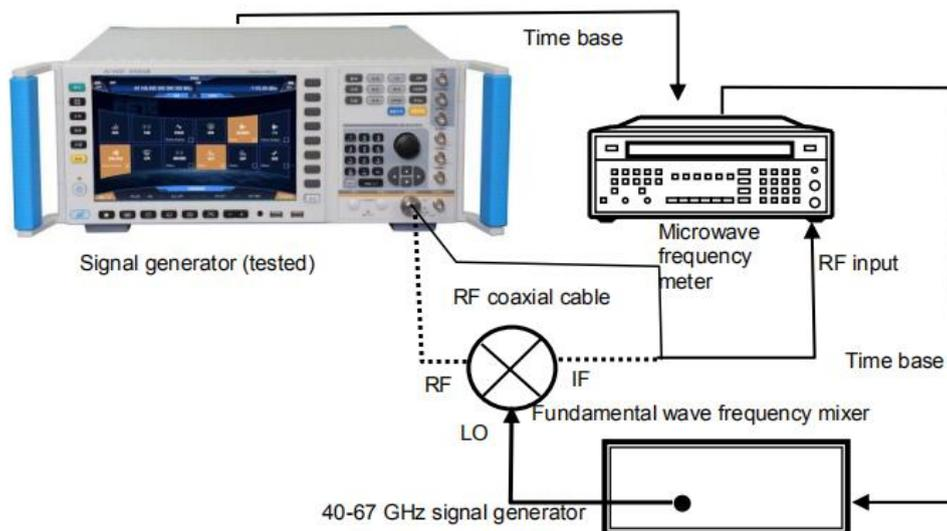

Fig.7.1 Frequency Range Test Block Diagram
**Step 2. Connect the device as shown in Fig.7.1.**